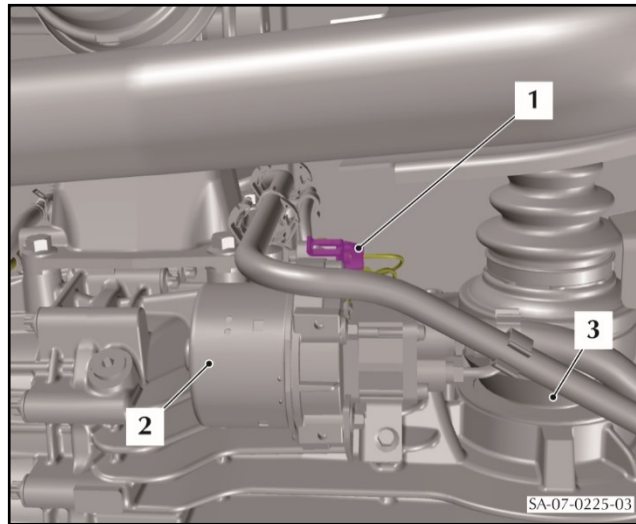

Figure 6
7. Disconnect the electrical connector (1) for the ASM fluid pump (2) (refer to Figure 6).